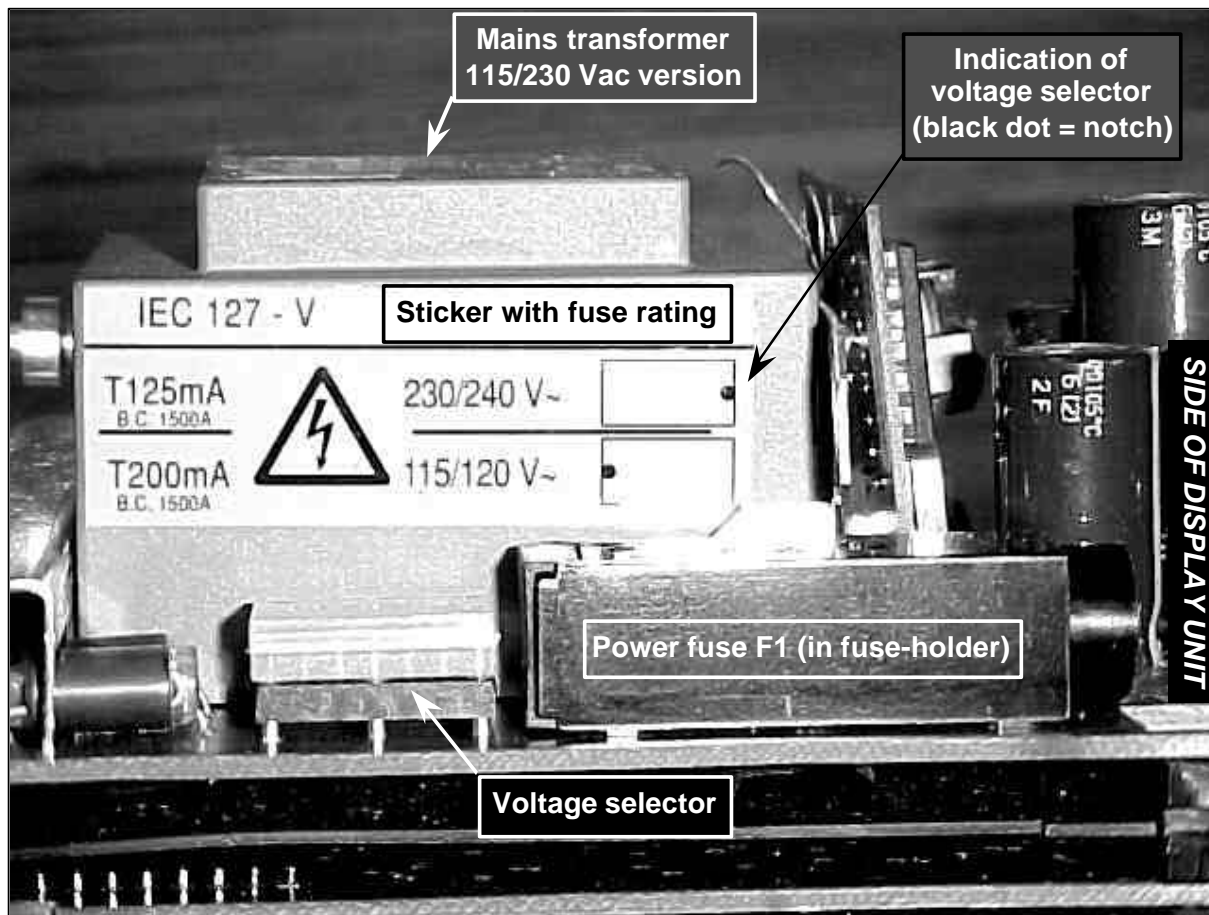

Figure 13: Power supply version 115/230 Vac.
The fuse rating is also shown by the yellow sticker that is glued on the mains transformer, which can only be seen after the regular IFC 090-EEEx electronics unit is completely removed from the flameproof signal converter housing. See figure 13 on the next page.
In case of any doubt about the fuse rating or the voltage setting of the unit, remove the complete unit from the housing as described in section 3.1.1 on page 16 and check the in figure 13 (on the next page) depicted items. Change when needed !
5. The voltage setting of the power supply can be changed by turning the dummy dual-in-line block (i.e. **voltage selector**, see figure 13 on the previous page) over 180° in its socket. The position of the notch on the dummy dual-in-line block indicates the voltage setting. Also see the sticker that is glued on the mains transformer.